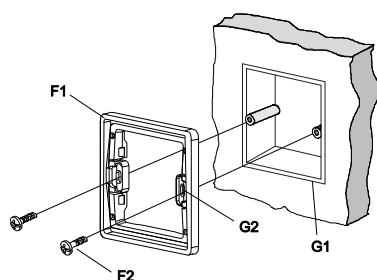

Figure 4: Mounting of the frame
- Mount the mounting frame (F1) onto conduit box (G1) via mounting slots with mounting screws (F2) (see figure 4),